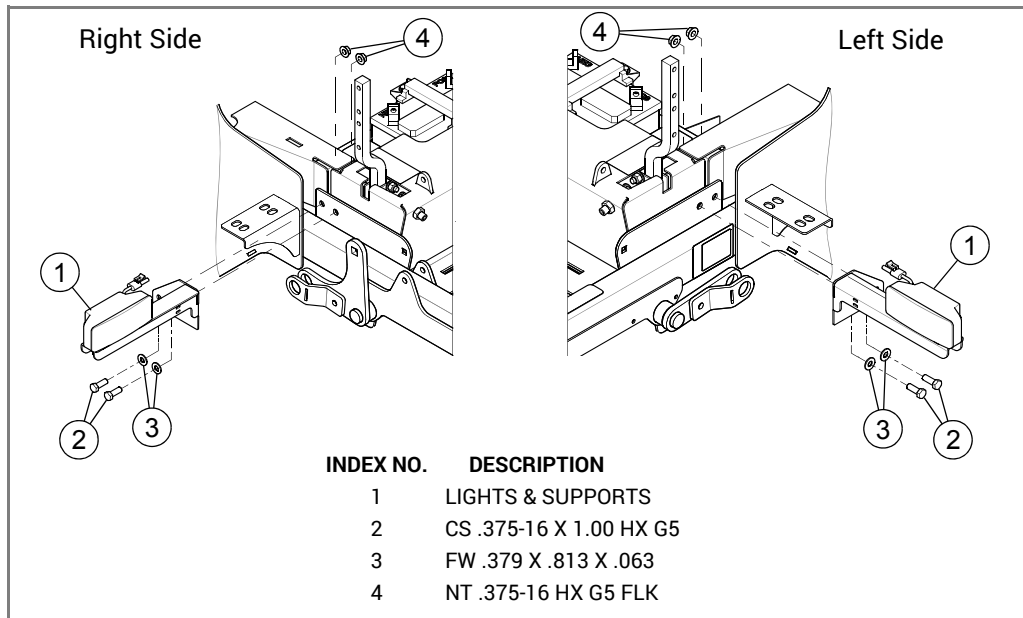

FIG. 3
7. Attach the light supports to the right and left sides of the mower frame. FIG. 3